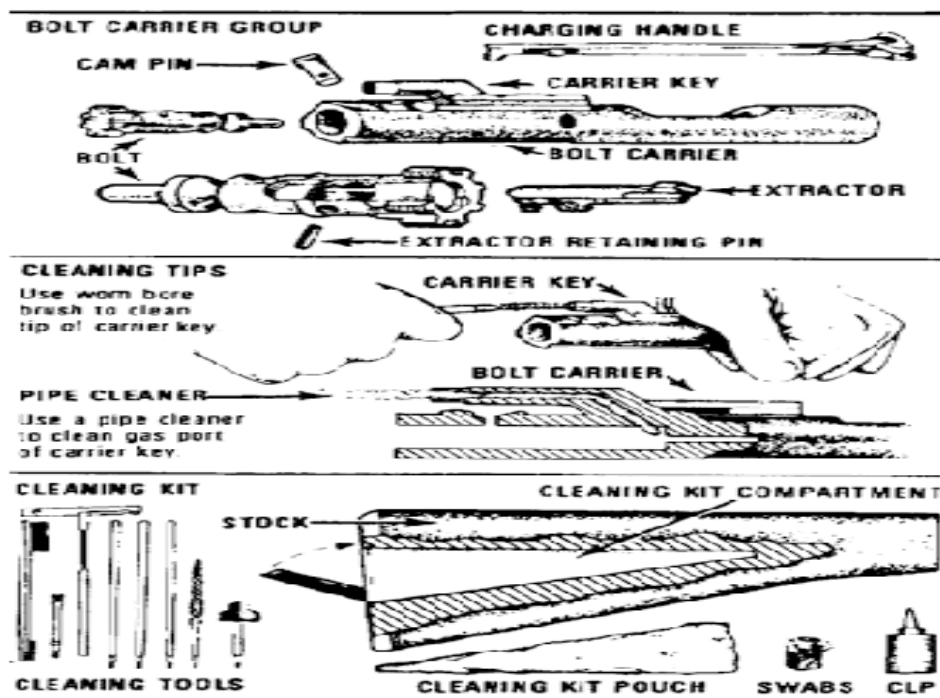

Figure E-22. Cleaning the bolt carrier group.
b. Clean the bolt carrier group, wiping the following parts with swabs and other parts from the small arms maintenance equipment case (figure E-22).
- (1) The outer and inner surfaces of the bolt carrier.
- (2) The carrier key.
- (3) The firing pin recess and firing pin.
- (4) The firing pin hole with a pipe cleaner.
- (5) The carbon deposits and dirt from the locking lugs.
- (6) The areas behind the bolt ring and under the lip of the extractor.
c. Clean the following rifle parts lightly lubricating with CLP (figure E-22).
- (1) Lugs in the barrel extension, bore, and chamber.
- (2) Bolt carrier.
- (3) Slide cam pin area.
- (4) Piston rings.
- (5) Outside the bolt body.
- (6) Inside the bolt carrier key.
- (7) Firing pin and firing pin recess.
- (8) Outside surface of the protruding gas tube with a worn bore brush.
- (9) Buffer.
- (10) Action spring.